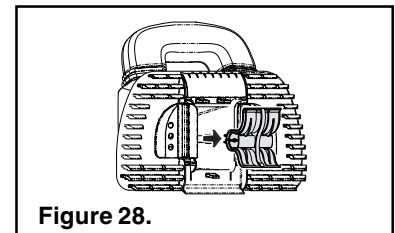

Figure 28.
4. Pull the Oscillator Straight out from the bottom of the Outer Housing. Be careful not to lose the Sliding Seals, (see Figure 28).